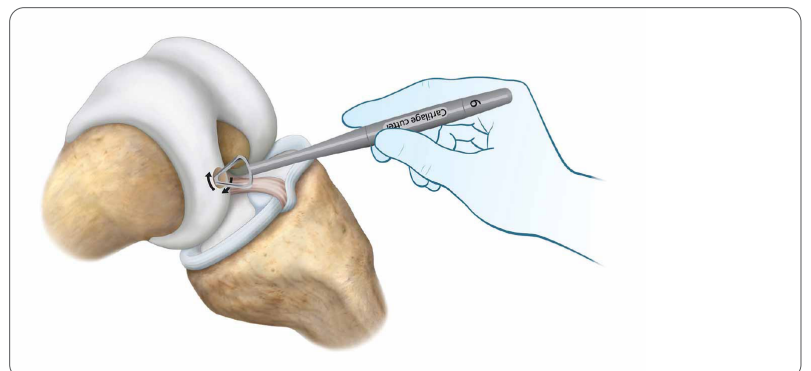

Figure 11
11. Trim the peripheral cartilage using the Cartilage Cutter or a scalpel to ensure smooth edges and to avoid invagination during implant insertion (**Figure 11**).